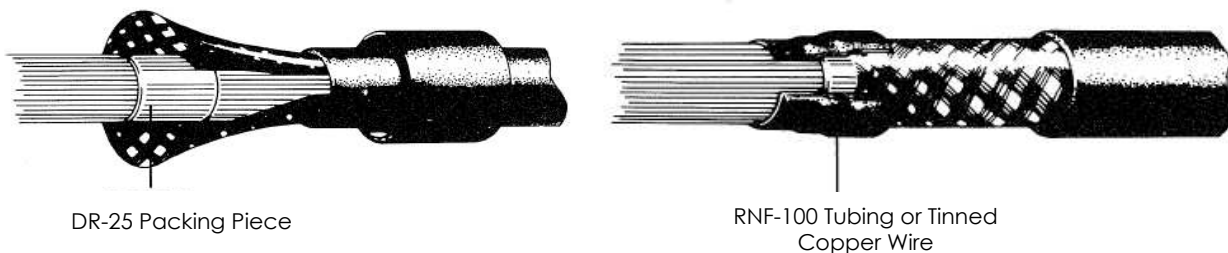

Figure 4 Cable and shield configurations
- 5.6. Position and recover the DR-25 packing piece under the shield. Trim the shield 2mm from the front edge of the DR-25 packing piece. Secure using RNF-100 tubing. Alternatively secure the ends of the shield with the tinned copper wire, ensuring that the twisted ends are folded flat against the shield. The shield and cable are now of similar diameter. See Figure 4.